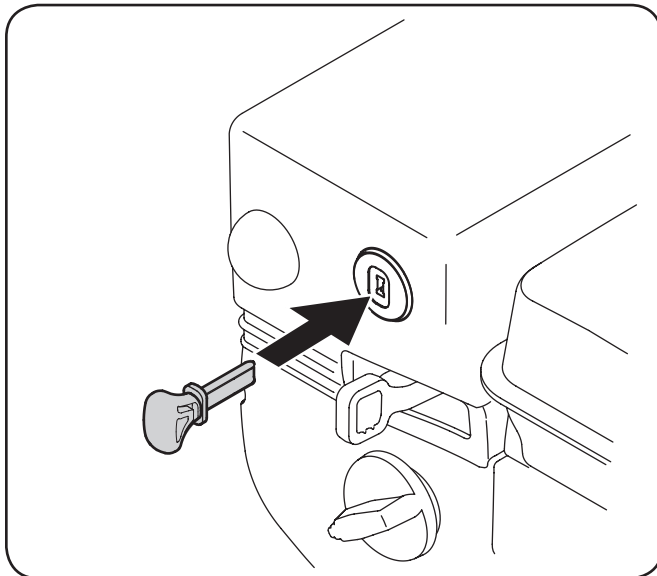

Figure 5-1
2. Insert key fully into slot, Fig. 5-1. Make sure it snaps into place. DO NOT turn key. The engine cannot start unless the key is inserted into ignition switch.